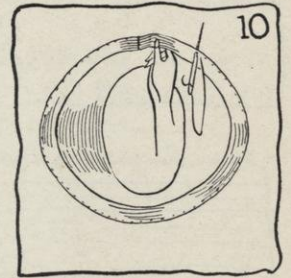

FIG. 10.
- (1) When you start to sew the row of braid to the edge, cut the ends perfectly straight, and start at direct back (see Figure 10).
- (2) Sew, as shown in Sections 12 f, (1) (c), (d), and (e) (page 270).
- (3) When you reach the starting point of the flange, cut the other end a speck longer than necessary (cut it perfectly straight), force it into place alongside of the first cut edge, and sew firmly and invisibly (see Figure 10).